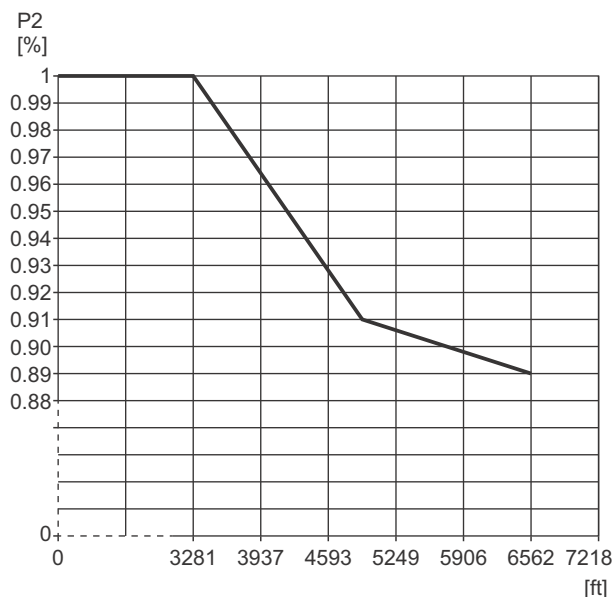

Fig. 17 Derating of motor output power (P₂) in relation to altitude above sea level
- Motors installed more than 3280 ft (1000 m) above sea level must not be fully loaded due to the low density and consequent low cooling effect of the air. See fig. 17.